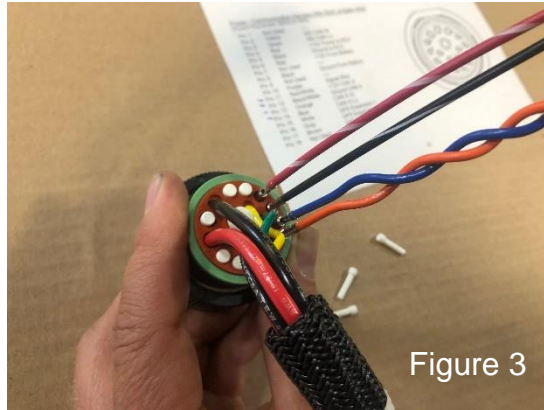

Figure 3
3. The GPS expansion harness (006-765GPS-EXT) has a 3 Pin triangular plug with 3 wires leads terminated with socket connectors. Install the socket connectors by identifying each colored wire on the GPS expansion Harness and pushing them into the corresponding open cavity in the back side of the 18 Pin connector (Figure 3). Reference wire pinout “Power / Communication Harness 006-765IC at Baler Hitch” in pin out section and the chart below to locate wire color with corresponding plug pin #.